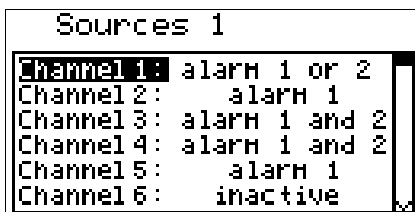

Fig. 7.24. Submenu **"Source"** in menu **"Outputs settings"**.
- "Source"** - brings up a submenu with alarm sources settings (Fig. 7.24). The following options are available for each channel: